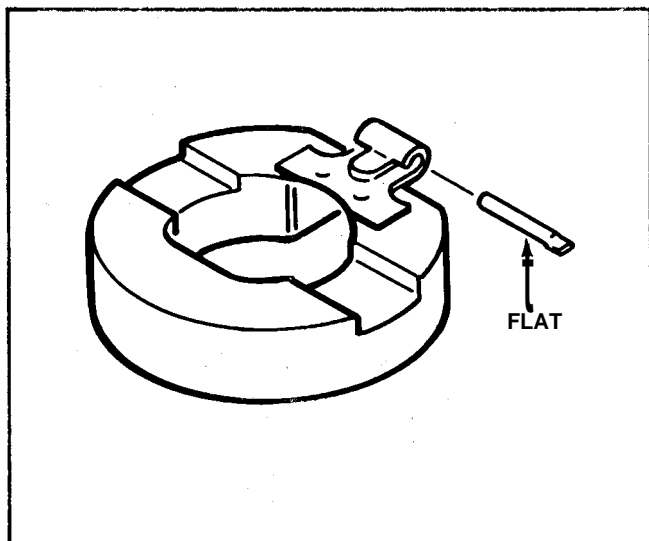

Figure 16
2. The main jet is threaded into the carburetor bowl nut. The float and inlet needle may be removed by pulling out the float hinge pin. Note: one end of the hinge pin is flattened slightly. The pin must be removed from this end. See Figure 16.